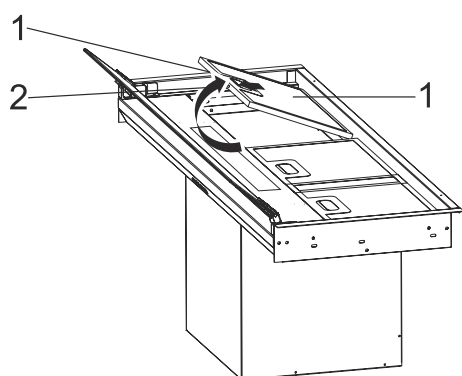

Fig. 11
1. ➔ Remove the appliance package and place the aluminium filters facing upwards. (Fig. 11).
Press the aluminium filter latch (/1) and pull upwards (Fig. 11/2) to remove.